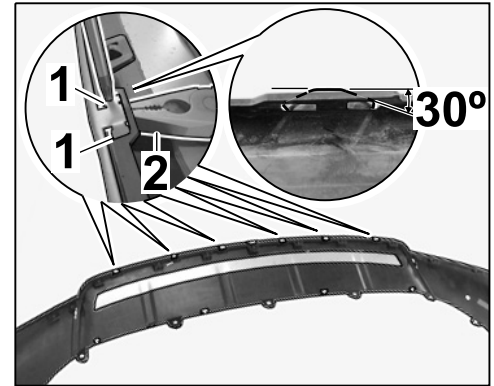

Figure 11
2.4.3 Press retaining lugs (⇒ *Figure 11 -1-*) down by approx. 30°. Counter using a flat-nosed pliers or another tool (⇒ *Figure 11-2-*).